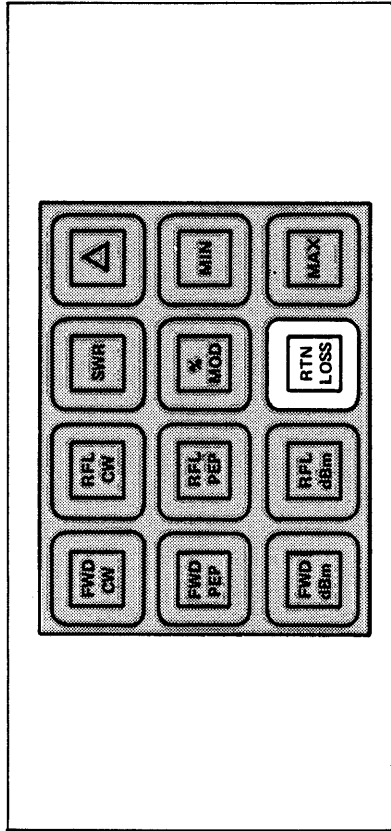

Figure 3-7. Return Loss, Insertion Loss, or Attenuation.
g. **Measuring Return Loss, Insertion Loss, or Attenuation.** (Figure 3-7.) The measurement of return loss is the same as that of SWR except that the result is displayed in dB. In other words a reading of 21.65 indicates that reflected power is 21.6dB down from forward power.